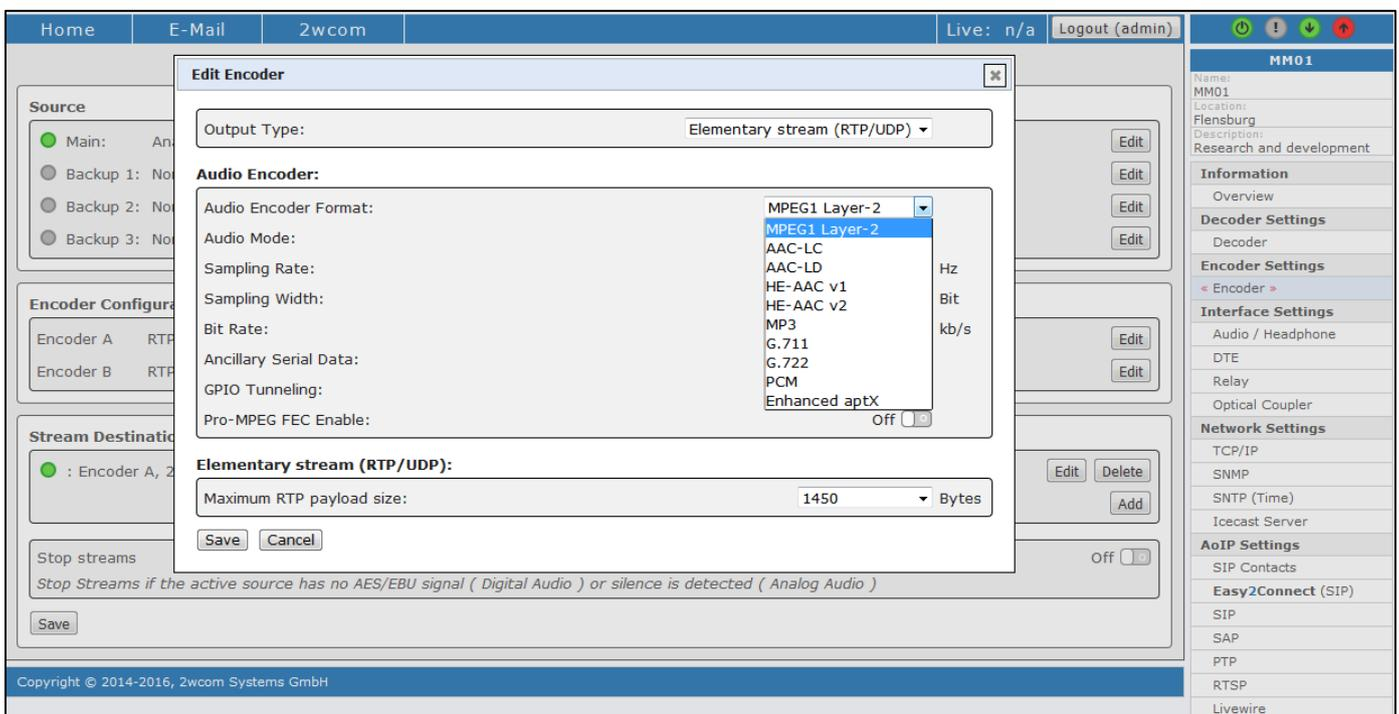

Figure 22: Encoder Configuration – Edit Coder
2. Click the button in the field **Encoder Configuration** to configure Encoder A and Encoder B. The page *Edit Source* appears (see Figure 22).
1. Open the window *Edit Encoder* under **Encoder Settings**→**Encoder** by clicking the button in the field **Encoder Configuration**, to configure Encoder A and Encoder B. The page *Edit Source* appears (see Figure 22).
3. You can set up the following FEC parameters for the IP output: *FEC mode*, *FEC column (L) port offset* and *FEC row (D) port offset*.